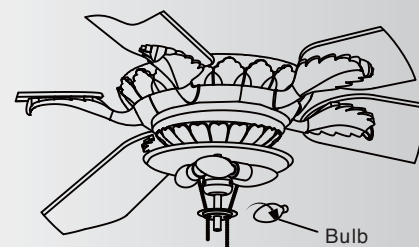

Fig. 32
Step 4. Now tuck the wiring connections neatly into the switch housing. Align the key hole slots on the side of the switch housing to the three (3) screws on the side of the mounting plate. Turn the Light Fixture until it locks in place at the narrow end of the key holes. Secure by tightening the three (3) screws previously loosened. Install the proper size and wattage lamps (provided). Refer to Fig. 32.